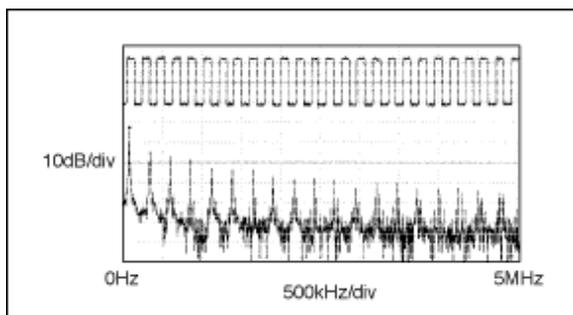

Figure 2. The driver output waveform and FFT plot of the MAX3485E/MAX3490E/MAX3491E transmitting a  $125\text{kHz}$  signal.
**Slew-Rate Limiting** Because the data rates for most power-meter applications are in the  $1\text{kbps}$  to  $19.2\text{kbps}$  range, fast edge rates are unnecessary and only serve to generate unwanted radiated emissions. By controlling the edge rates of the driver in an RS-485 transceiver, the emissions at higher frequencies can be reduced. Lower slew rates also reduce data errors due to imperfect terminations and stubs, etc. (see **Figures 2** and **3**).